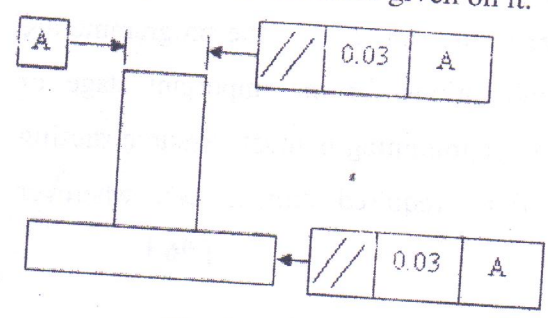

Fig. 1
- Q.2 a) Draw and explain **any four** FORM type of geometrical tolerancing symbols. Interpret the following drawing ( Fig. 1 ) and explain the tolerance given on it. [ 05 ]